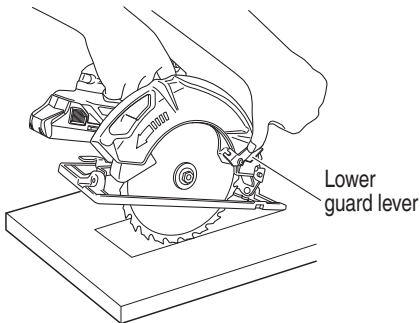

Fig. 32
1. Mark the desired cutting area clearly with lines all side. (See Fig. 32)
3. Push the lower guard lever all the way back so the blade is exposed as shown in Fig. 32.